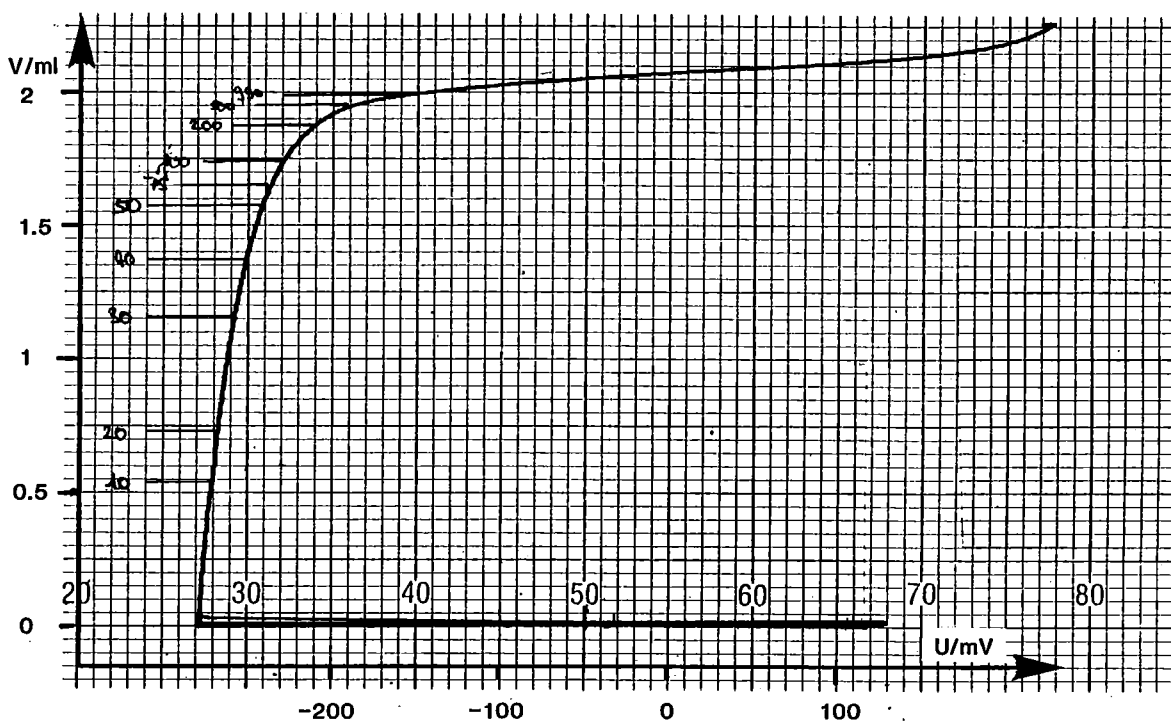

Fig. 3.1
Start condition: feed of titration reagent with max. titration rate (depending on the volume of the burette), see Fig. 3.1.
3. start slope (see Fig. 3.1)